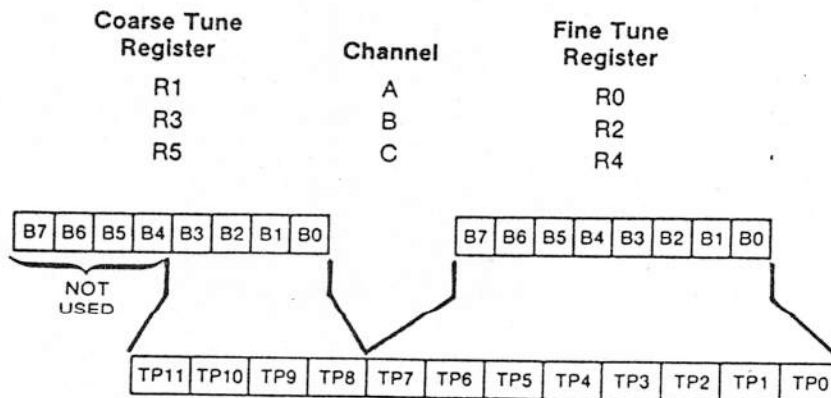

Figure 3-4. 12-BIT TONE PERIOD (TP) TO TONE GENERATOR
3.3.7.1 Tone Generator Control (Registers R0, R1, R2, R3, R4, R5). - The frequency of each square wave generated by the three Tone Generators (one each for Channels A, B, and C) is obtained in the PSG by first counting down the input clock by 16, then by further counting down the result by the programmed 12-bit Tone Period value. Each 12-bit value is obtained in the PSG by combining the contents of the relative Coarse and Fine Tune registers, as illustrated by Figure 3-4.